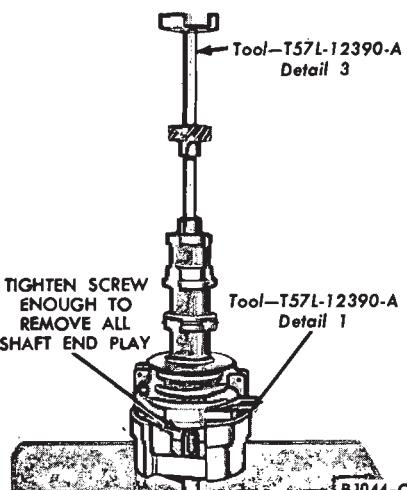

FIG. 21—Installing Original Shaft and Gear—V-8 Engine
8. Install the assembly in a press, press the gear on the shaft (Fig. 21), using the marks on the gear and shaft